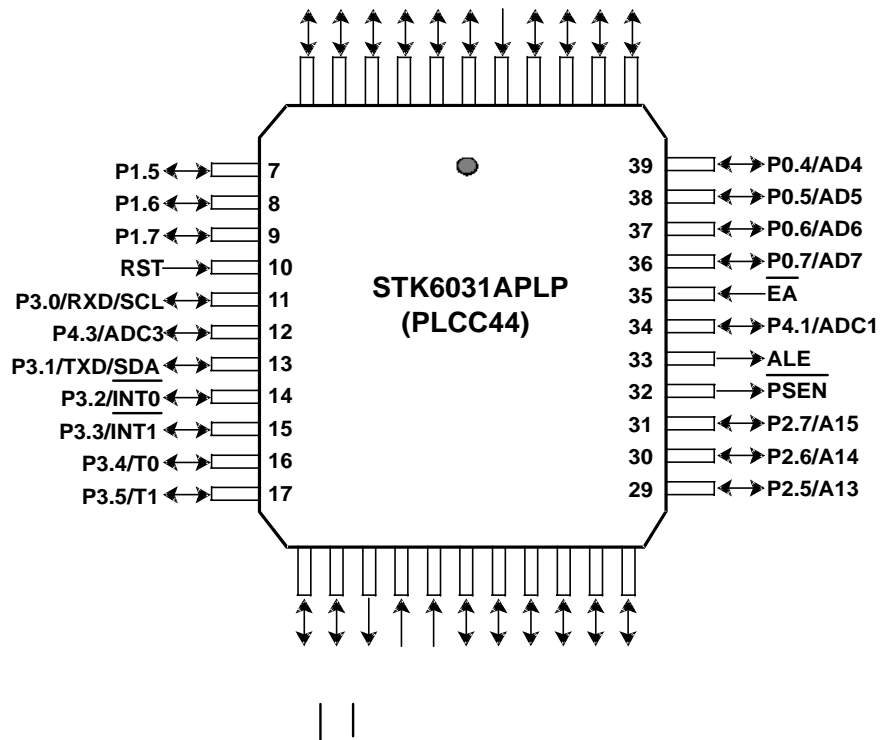

Fig.4 Pin configuration PLCC44 version.
- Figure 4** Pin configuration PLCC44 version. ...Page 8